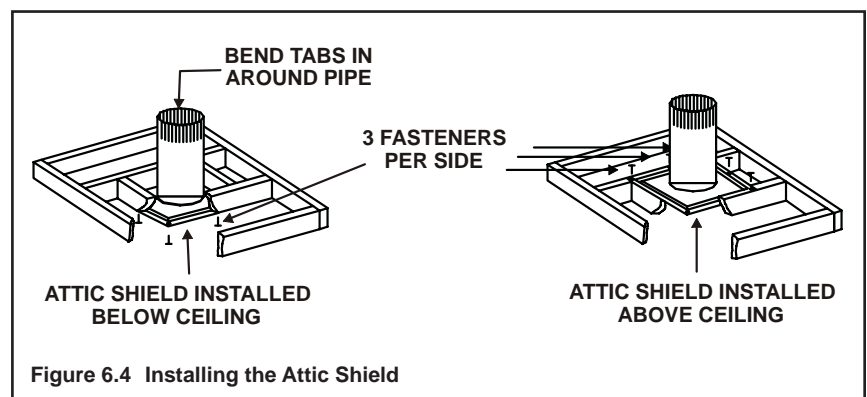

Figure 6.4 Installing the Attic Shield
- Attic shield may be installed above or below ceiling (see Figure 6.4).